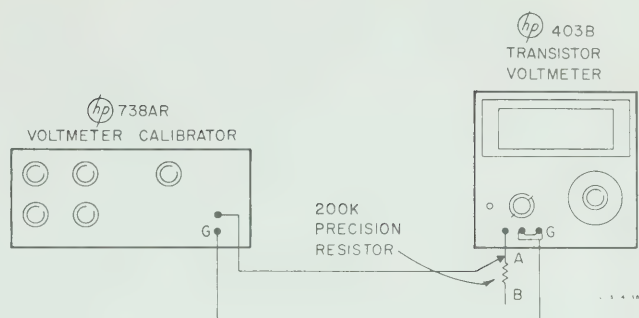

Figure 5-6. Performance Check Setup
The 15K resistor must be connected as shown in Figure 5-6 to prevent damage to Voltmeter Calibrator.
b. Connect Model 403B as shown in Figure 5-6 (Position A).
a. Connect the Model 403B as shown in Figure 5-6 (Position B).